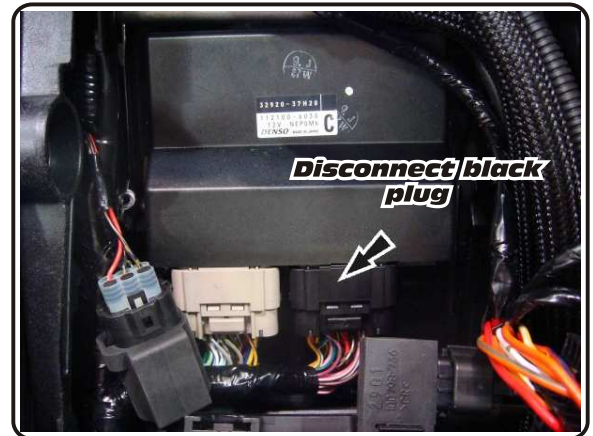

Fig. 1
- 3 With ignition in OFF position, disconnect the black wire harness plug from the ECU (see Fig. 1).